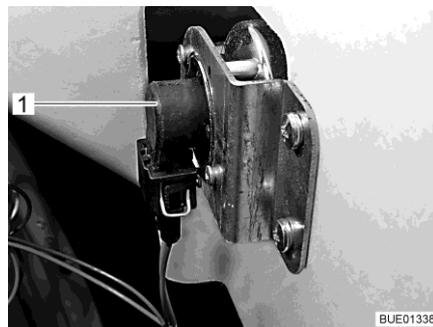

Fig. 161 Direction indicator
- Put your hand behind the lamp holder (Fig. 161,1).